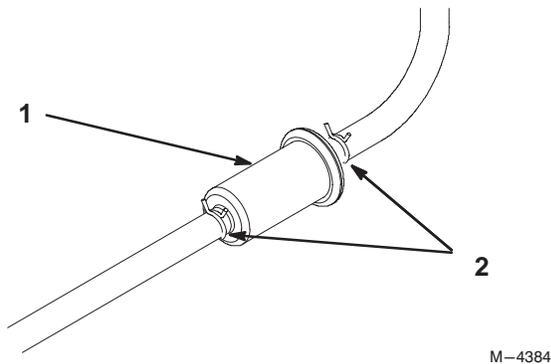

Figure 46
4. Squeeze the ends of the hose clamps together and slide them away from the filter (Fig. 46).